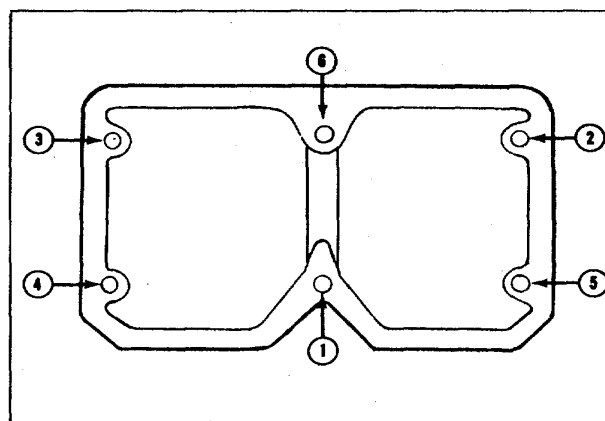

Fig. 14-69 (N11463). The Tightening Sequence For The Rocker Lever Housing Capscrews.
5. Tighten the capscrews in the sequence shown in Fig. 14-69 to 55 to 65 ft.-lbs. [75 to 89 N•m] torque.